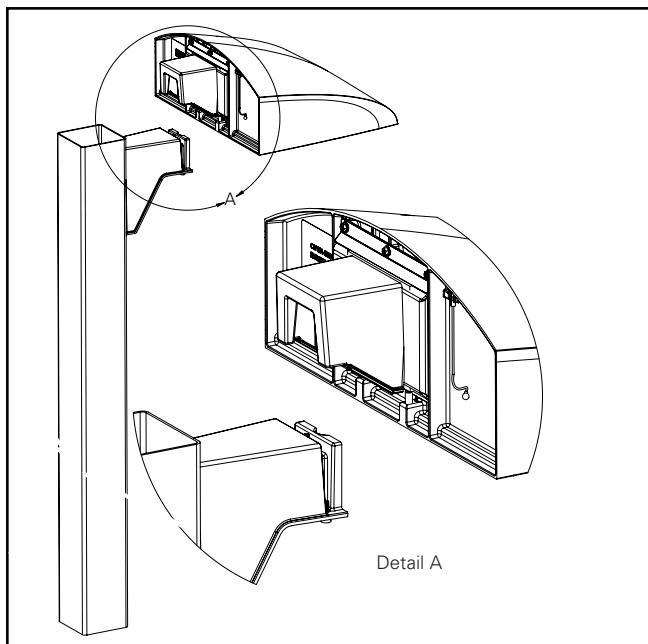

Figure 10.
4. Attach the quick-connect adapter to the fixture, pulling the luminaire supply leads through the wedge plate center hole. Tighten the (2) $\frac{1}{4}$ -20 lock screws on the fixture to 20 in-lbs. (Figure 10.)